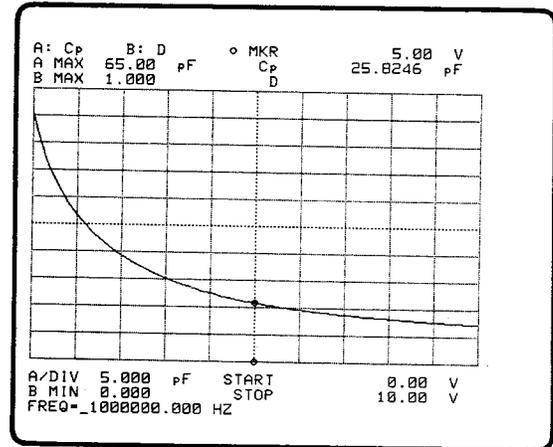

Figure 3-65. DC BIAS Sweep
Softkey used to select DC BIAS(V) as the sweep test parameter. When this key is selected, the units in parameter area of the screen are displayed as shown in Figure 3-65.